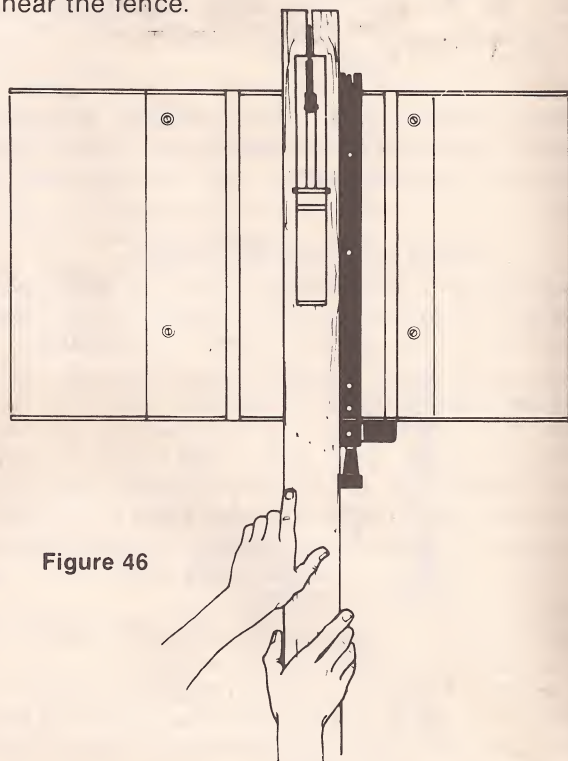

Figure 46
USING THE RIP FENCE figures 46 & 47
Ripping is cutting lengthwise of the material or with the grain. You may rip on either side of the blade because the table accepts the fence on either side. A simple ripping operation is shown in **figure 46**, notice the placement of the hands. Both hands can be used in starting the cut. When there is approximately twelve (12) inches left to be ripped ... use only one hand, with your thumb pushing the material, your index and second finger holding the material down and your other fingers hooked over the fence as shown in **figure 47**. Always keep your thumb along side your first two (2) fingers and near the fence.